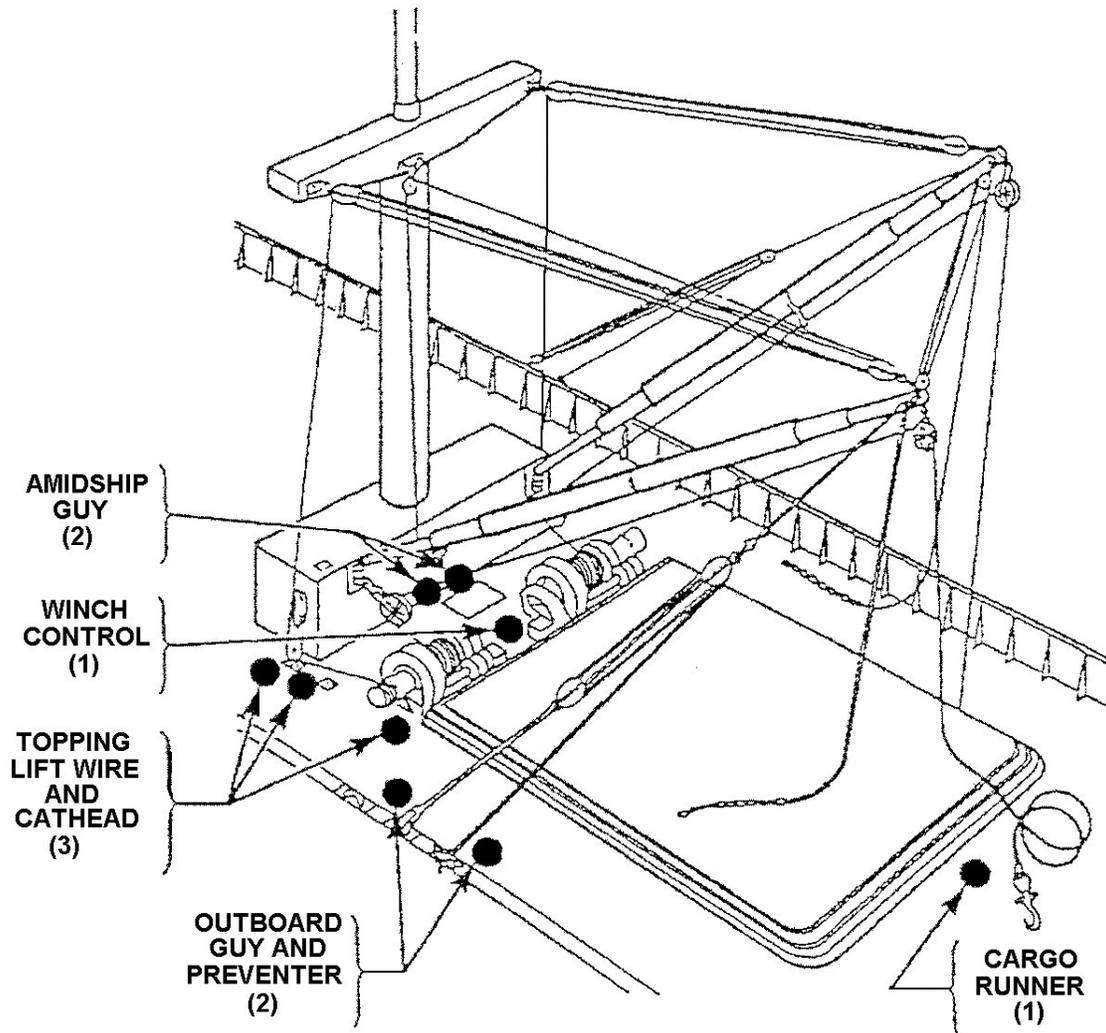

Figure 3-25
Note: 1. The hatch gang will place the hauling part of the topping-lift wire in a wire rope snatch block. 2. On a vessel rigged with single-topping lifts, the catheads are equipped with a fitting to which the bull rope can be fastened. When the fitting is available, the bull rope is secured to it, instead of the five (5) turns being taken around the cathead (see Figure 3-25).